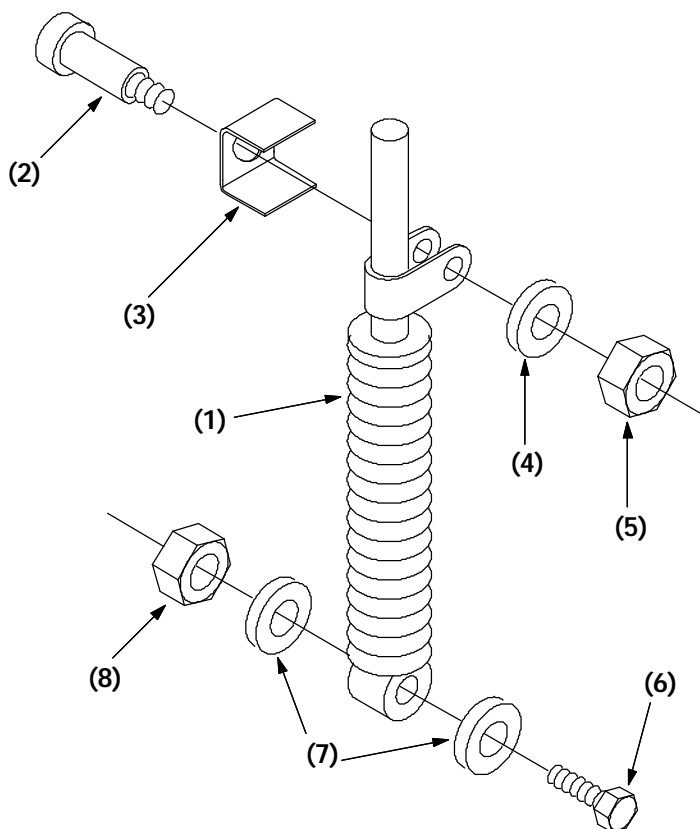

FIG. 1 - Installation of Retainer Bracket onto Shock Absorber
(Refer to FIG. 1 and 2)
4. Remove hardware and shock absorber. (Refer to FIG. 1 and 2).
5. Install new shock absorber (1) with hardware provided (2, 3, 4, 6, and 7). Tighten nuts (5 and 8). (Refer to FIG. 1 and 2).
(Refer to FIG. 1 and 3)
3. Locate the shock absorber (on front side of propel pump). (Refer to FIG. 1 and 3).
4. Install new shock absorber (1) with hardware provided (2, 3, 4, 6, and 7). Tighten nuts (5 and 8). (Refer to FIG. 1 and 3).
(Refer to FIG. 1 and 4)
4. Remove hardware and shock absorber. (Refer to FIG. 1 and 4).
5. Install new shock absorber (1) with hardware provided (2, 3, 4, 6, and 7). Tighten nuts (5 and 8). (Refer to FIG. 1 and 4).